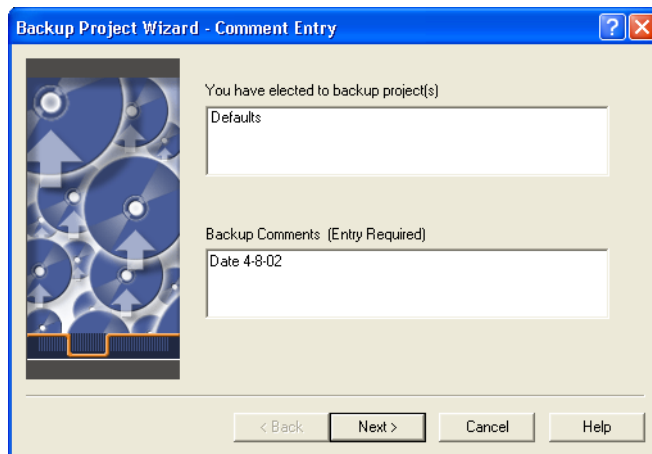

Figure 8-1 Backup Project Wizard–Comment Entry Page
1. Select **Manage > Backup Current Project**. The Backup Project Wizard–Comment Entry page appears (Figure 8-1).